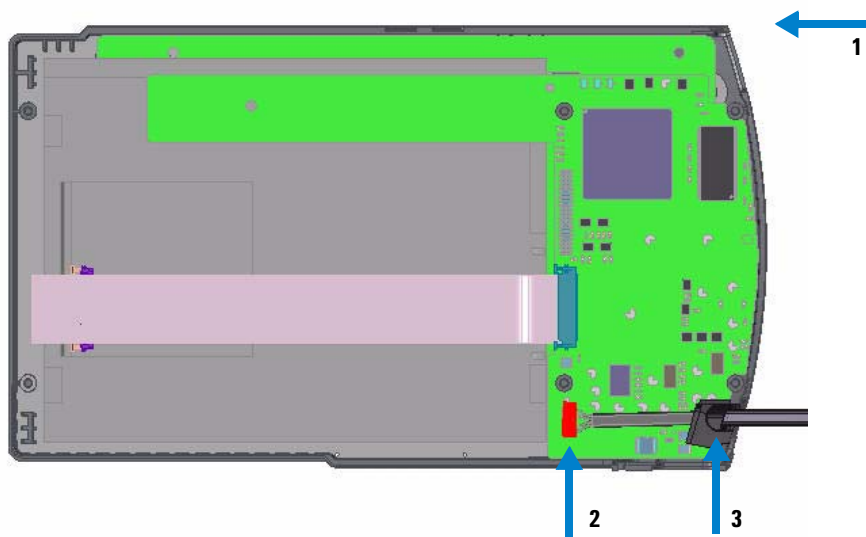

Figure 109 Rear Panel - location of cable, connector and release button
- 5 The release button [1] (shown in Figure 109) may fall out during the removal. Keep it.